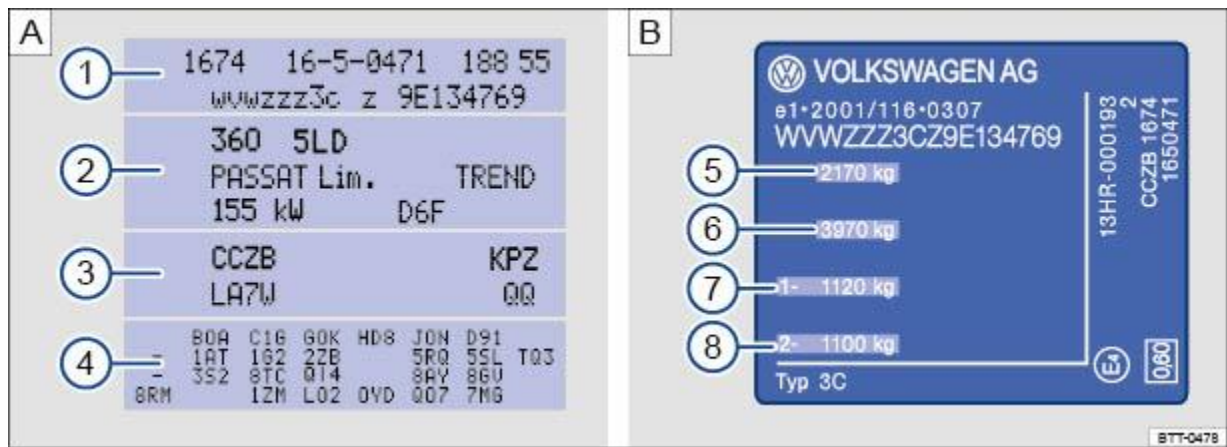

Fig. 215 : vehicle data sticker: example shows a vehicle with engine code CCZB ③. : type plate.
The vehicle data sticker ⇒ Fig. 215 **A** is located on the cover of the owner's manual and under the rear luggage compartment trim on the luggage compartment wall. It contains the following data:
- ② ① Vehicle identification number (chassis number)
- ② ② Vehicle type, engine power, gearbox type
- ② ③ Engine and gearbox codes, paint number, interior equipment. In the example, the engine code is CCZB ⇒ Fig. 215 **A**.
- ② ④ Additional equipment, PR numbers
The type plate ⇒ Fig. 215 **B** can be seen on the lower part of the door pillar when the driver door is open. Vehicles for certain export countries do not have a type plate.